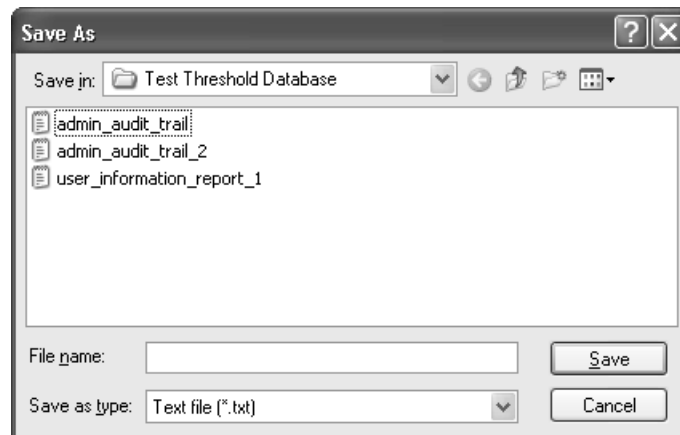

Figure 8-17: The Audit Trail Save As Dialog
- 4) Click **Export Audit Trail**. This opens a **Save As** dialog. (Figure 8-17).